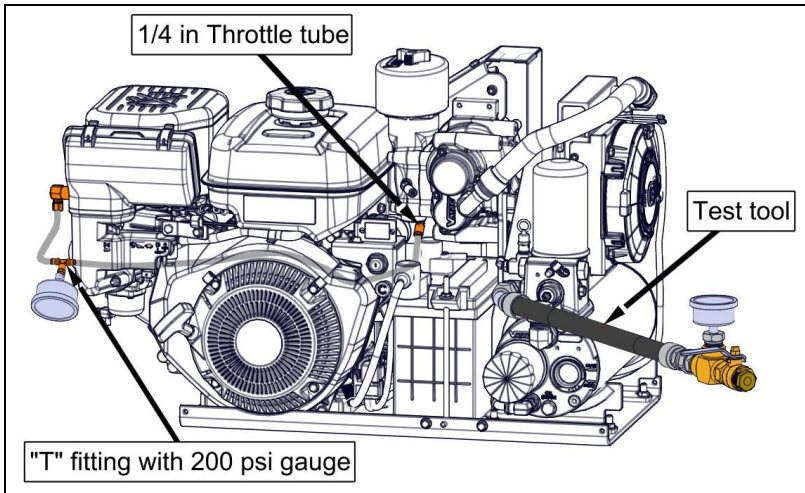

Figure 53 – Test equipment installed
- 3) Install a test tool on the system outlet (Figure 53).
- 4) Use a "T" fitting to install a 200 psi gauge on the 1/4 in throttle tube. (Figure 53).